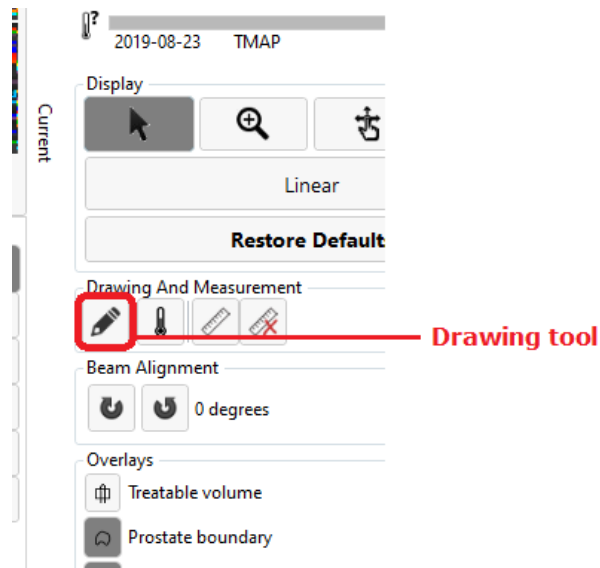

Figure 50: Prostate-boundary 'Drawing' tool on Delivery screen
2. Once delivery is paused, expand the right panel in the Delivery workspace to select the prostate boundary drawing tool (Figure 50).